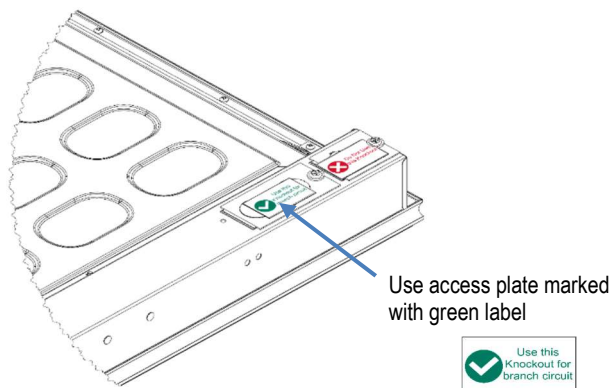
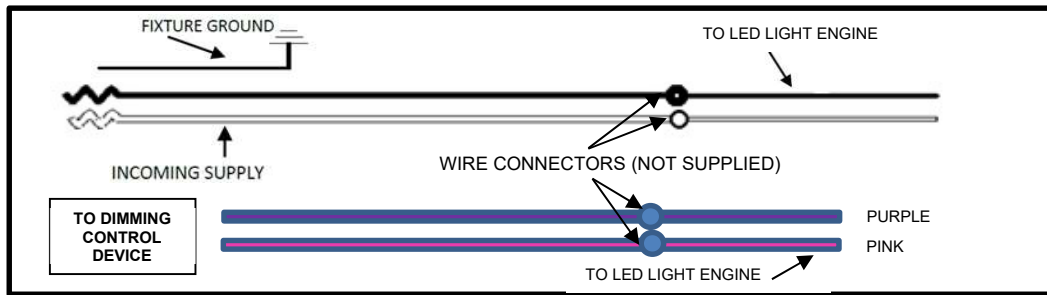

FIG 3: ACCESS PLATE
FIG 5: WIRING DIAGRAM
1. Using a screwdriver (not supplied), remove access plate as shown in Figures 3 & 4, with grid power OFF make electrical connections from supply and properly ground as local codes dictate. See Figure 5.